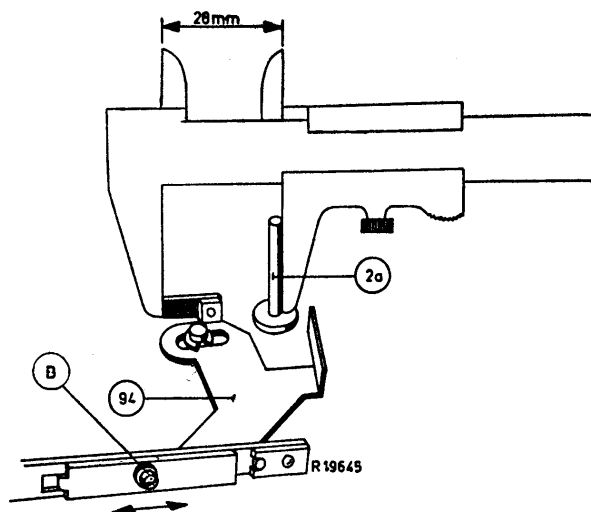

FIG. 13
- (b) Right-hand. To adjust the right-hand brake, remove the R.H. turntable 194 and, after slackening the locking screw "B," set the brake bracket so that the right edge of the brake block is 26 mm. from the right-hand edge of the turntable spindle (see Fig. 13).